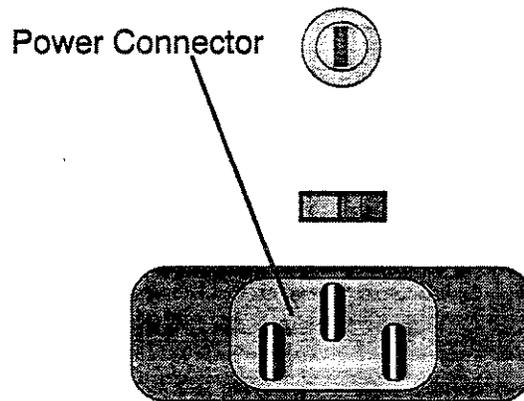

Figure 2-4. Power Connector
1. Connect the power cable to the power connector on the Model 395 rear panel; see figure 2-4.